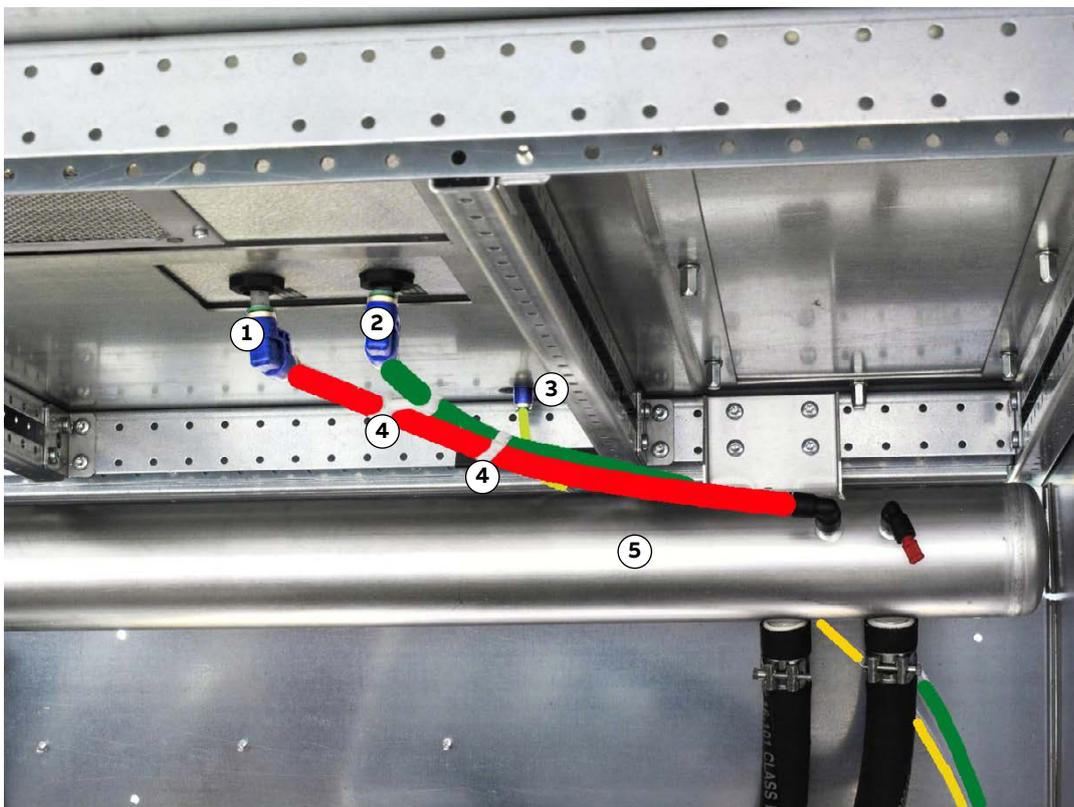

Figure 5-7 Water inlet / outlet and drain outlet (back view)
5. Connect the tube from the return pipe (Fig. 5-7: 5) to the water outlet (Fig. 5-7: 1).
The tubes are transparent. The colors used in Fig. 5-7 are for illustration only.
7. Connect the tube from the feed pipe (at bottom of cabinet) to the water inlet (Fig. 5-7: 2).
9. Connect the drain tube to the drain outlet (Fig. 5-7: 3).
10. Install the two white spacers (Fig. 5-7: 4) between the inlet and outlet tube.